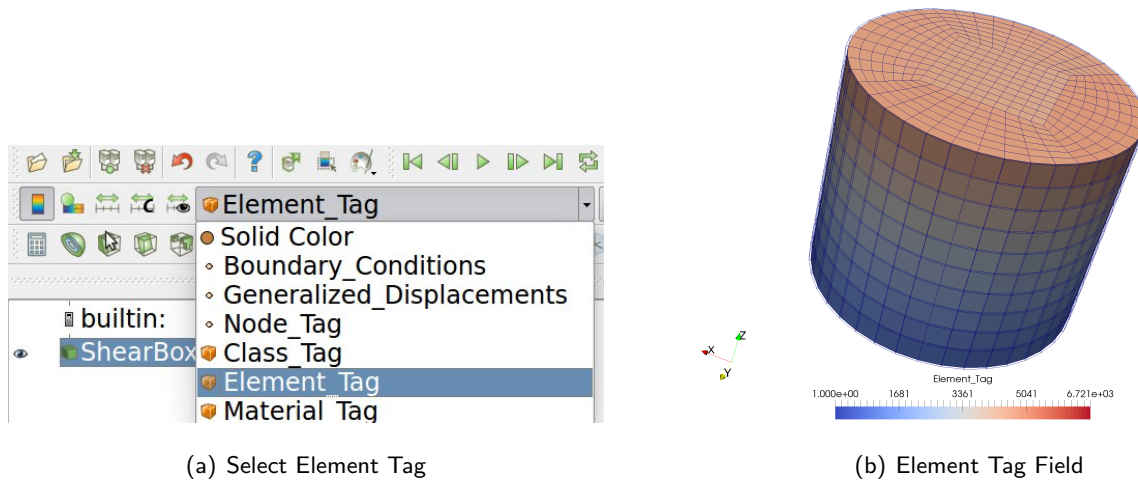

Figure 1.15: Element Tag Visualization.
**Element Tag Visualization :** This is a scalar field visualization that shows the element no associated with the elements in Real-ESSI simulation. Figure 1.15 shows steps to visualize element's tag.
**Element Class Tag Visualization :** This is a scalar field visualization that shows the **Element's Class Tag** number associated with the each *element type* in Real-ESSI simulation. Figure 1.15 shows steps to visualize element's tag. Section 1.5.4 shows the class tag for various element types available in Real-ESSI.